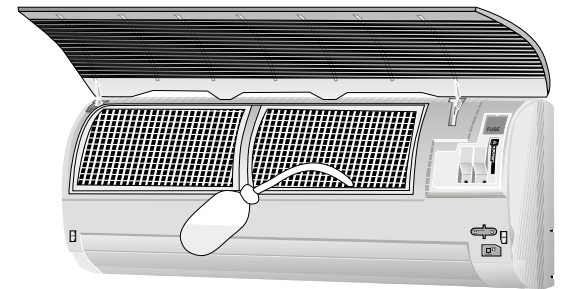

Fig. 5
- Check that the drainage functions properly. Fill the pan below the unit's coil with water and observe that it freely drains out. See Figure 5.